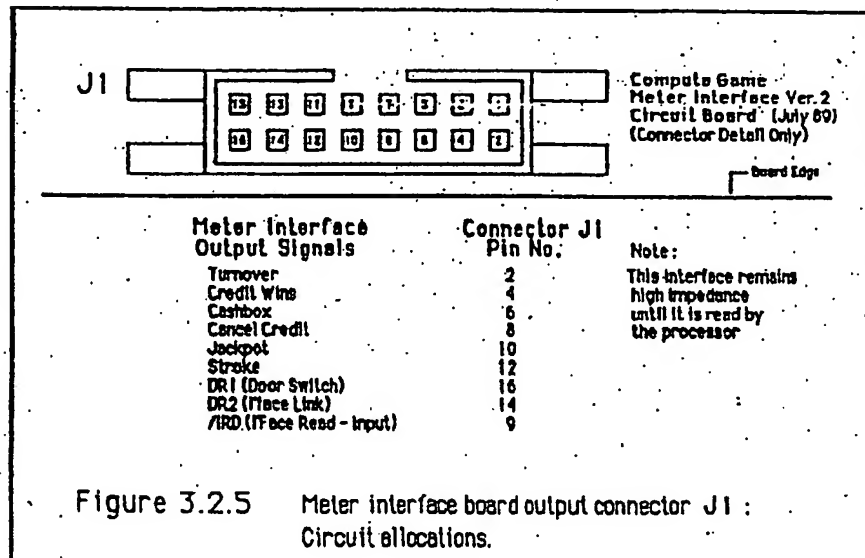

Figure 3.2.5 Meter interface board output connector J1 : Circuit allocations.
- Figure 3.2.5 Shows the pin No. to function designations for the meter interface output connector J1.
Figure 3.2.5 shows the circuit allocations for the meter interface output connector J1.